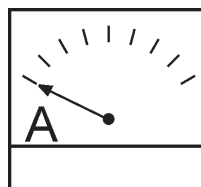

**Figure 47. Voltmeter**
12. The generator's AC-voltmeter (Figure 47) will display the generator's output in **VOLTS**. If the voltage is not within the specified tolerance, use the voltage adjustment control knob (Figure 48) to increase or decrease the desired voltage.